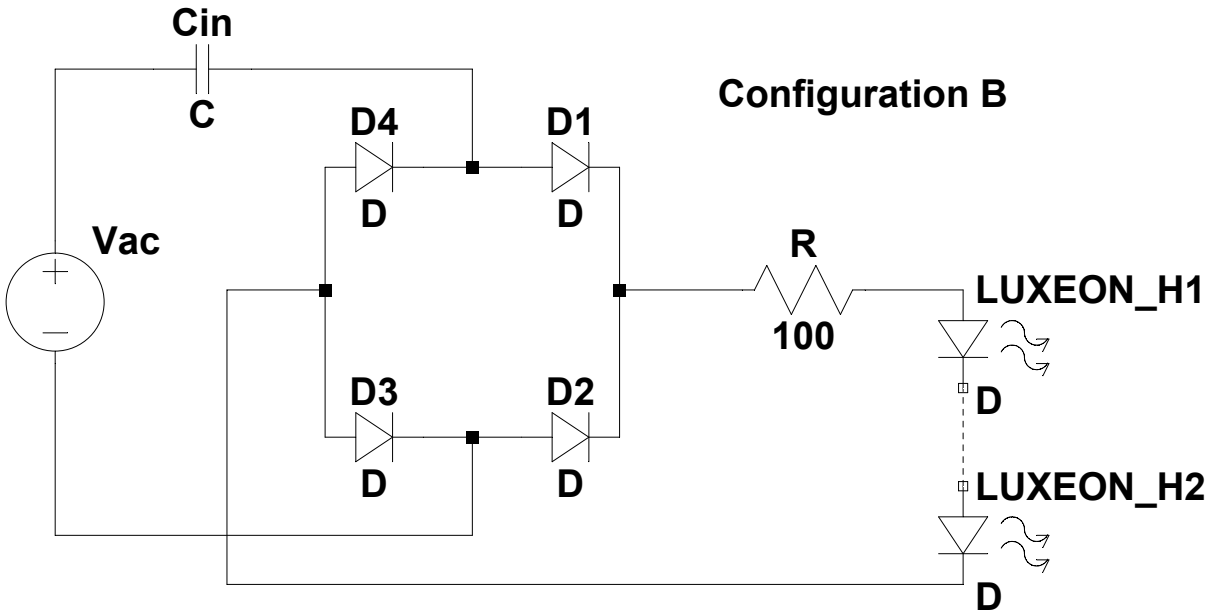

Figure 6. Configuration B, for use with Table 2.
2. Configuration B: Input capacitor and 100 Ω resistor in series with LUXEON H LEDs (Figure 6)